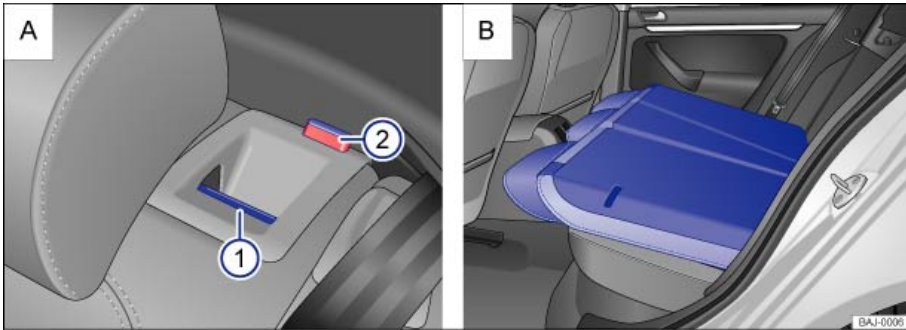

Fig. 90 A: Rear seat bench: release button 1, red mark 2. B: Seat backrest folded forward.
- Pull the release button ⇒ fig. 90 \(1\) forward while folding the rear seat backrest forward.